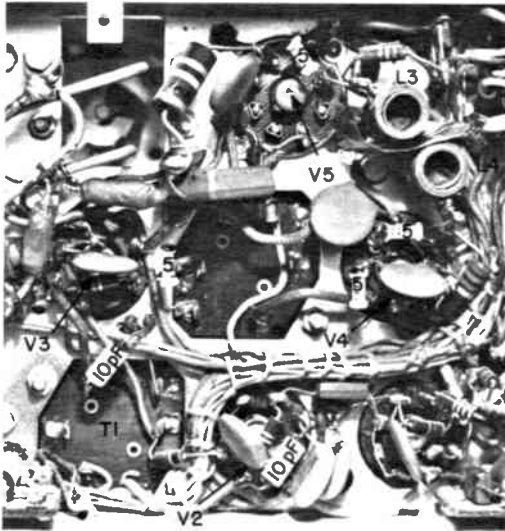

fig. 14. Bottom view of chassis showing added components.
1. Install two high quality 10-pF tubular ceramic capacitors across transformer T1: one capacitor from the plate of V2 to ground, the other from the grid of V3 to ground. These new capacitors are shown in fig. 14.